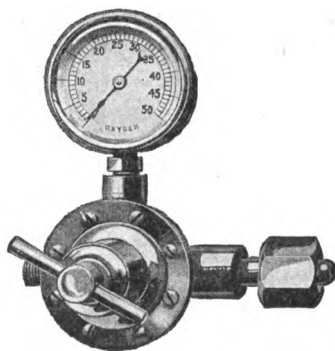

Fig. 21. Oxygen Regulator for Carbon Burning
*Setting the Motor.* The motor should be turned by the crank until piston 1 is on upper dead center, ready to fire. When the piston is in this position, both valves are closed and the carbon on top of the piston is nearer the oxygen supply. The spark plugs are then removed and a little oxygen allowed to escape from the torch into the combustion chamber through the spark-plug hole. This is done so that there will be sufficient oxygen to support combustion when a match is dropped through the spark-plug hole before the oxygen torch is inserted. After the regulator, Fig. 21, has been adjusted to a pressure of about 15 pounds, the torch nozzle is inserted through the spark-plug opening, which causes the carbon to burn very rapidly. It is important always to have at hand a reliable fire extinguisher as some sparks or hot carbon may drop in the oil pan and cause a fire. It is unnecessary to turn off the gasoline supply to the carburetor or to remove the carburetor, as the closing of the inlet valves prevents any